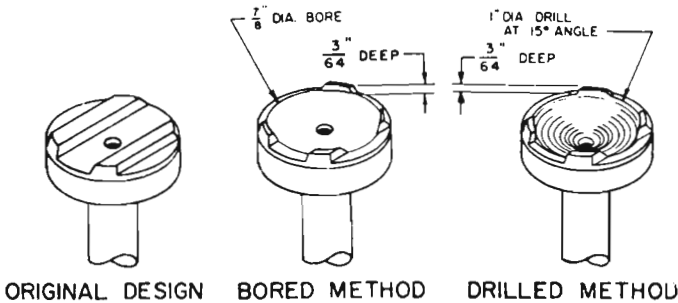

Figure 14
7.2.1 The original design of the emergency piston must be modified to either of the designs shown in Fig. 14. The small end of the piston must be either bored $\frac{7}{8}$ " diameter, $\frac{3}{64}$ " deep or be drilled with a 1" drill until a $\frac{3}{64}$ " lip remains. To prevent corrosion after the piston end has been machined, it must be treated with "Alodine 1200" or approved equivalent* according to treatment instructions and rinsed with water unless otherwise directed.